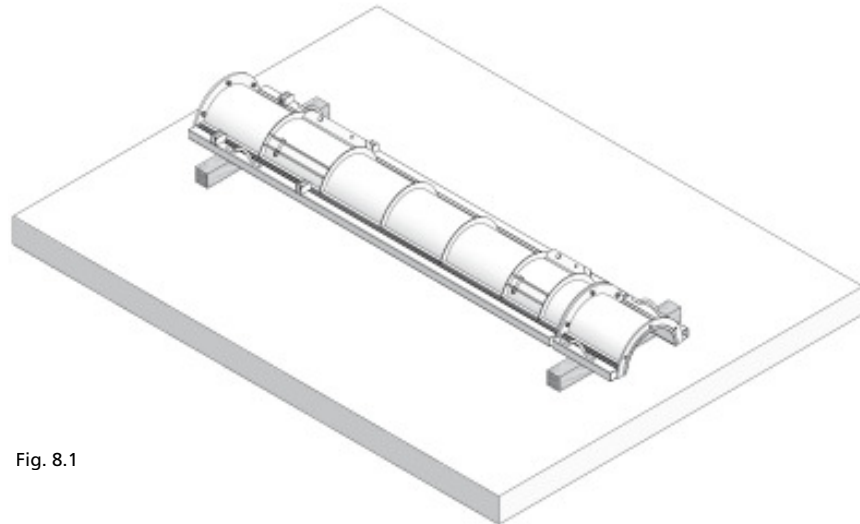

Fig. 8.1
2. Move the extension panels and basic formwork unit together and insert the screws again (Fig. 8.1).